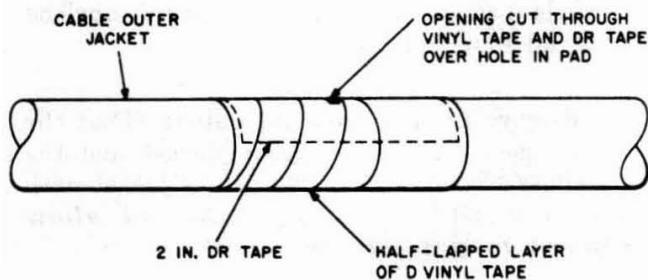
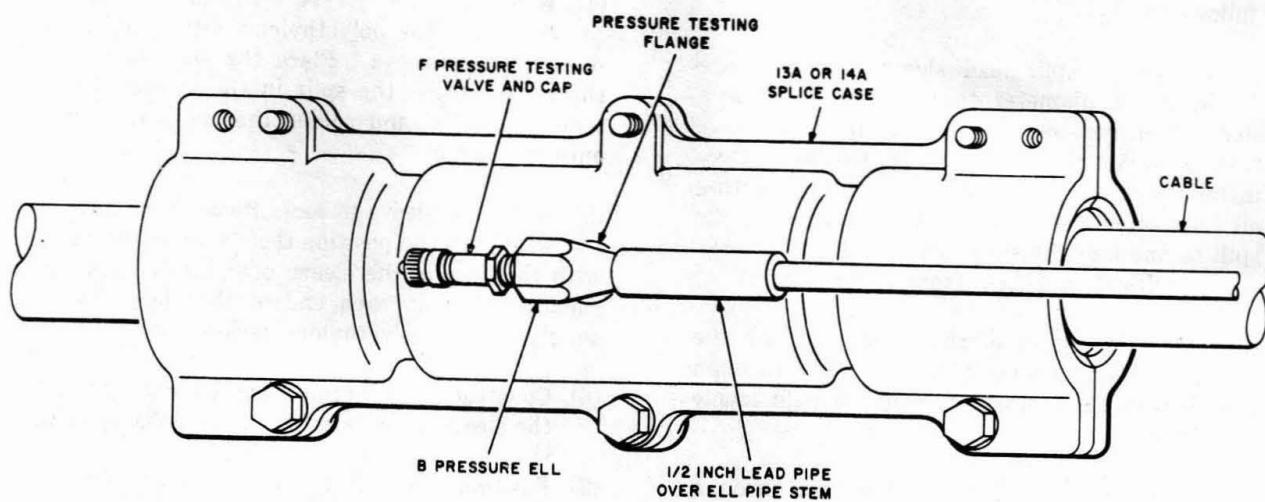

Fig. 15—Insulating Pad Wrapped
Fig. 16—Splice Case With B Pressure Ell and F Pressure Testing Valve Installed
- (8) Cut a strip of 2-inch DR tape to cover this area. Cut a small hole in the DR tape. Place this strip of DR tape so the hole coincides with the 1/4-inch hole in the pad and press firmly in place.
- (9) Place an orange stick into the hole and leave the stick in place; then, wrap with a half-lapped layer of vinyl tape (Fig. 15)
- (10) Follow the procedure outlined in paragraph 4.04 (6) through (13) to complete the installation.
- (1) Follow the procedures outlined in paragraph 4.05 (1) through (8) to prepare the sheath for splice case installation.
(2) Place an orange stick into the hole; then, wrap with a half-lapped layer of vinyl tape (Fig. 15). Remove the orange stick after wrapping.
(3) Place the splice case on the cable as described in Section 633-470-100.
(4) To place the B pressure ell in the 13A or 14A splice case, coat the threads of the ell with teflon pipe sealing tape. Screw the ell into the pressure testing flange on the splice case. Before pressurizing the splice case, solder the lead pipe to the ell pipe stem and place the F pressure testing valve in the ell (Fig. 16).
- (1) Follow the procedures outlined in paragraph 4.05 (1) through (8) to prepare the sheath for split sleeve installation.
- (2) Place an orange stick into the hole; then, wrap with a half-lapped layer of vinyl tape (Fig. 15). Remove the orange stick after wrapping.
- (3) Place the split sleeve and complete the installation as described in paragraph 4.08 (4) through (7).